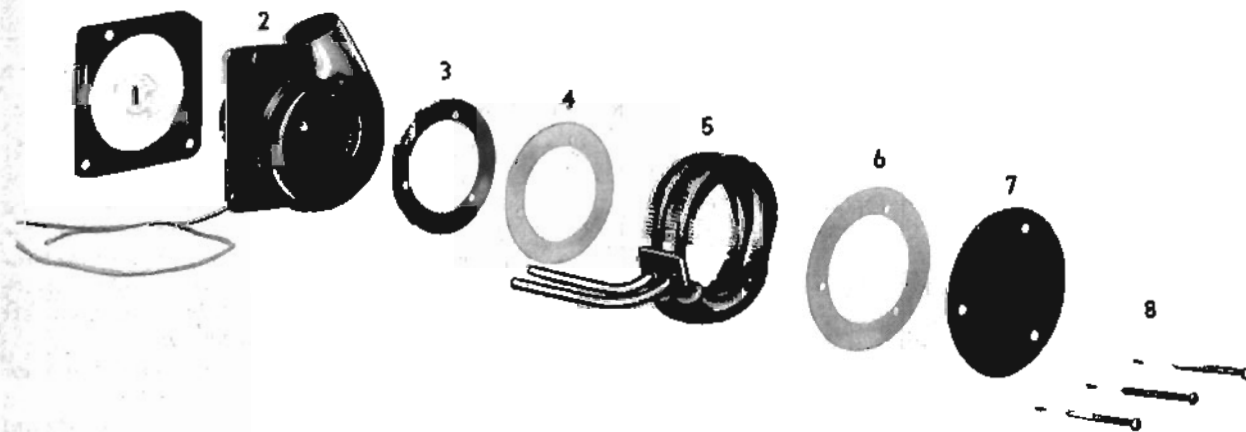

FIG. 3
Drain the cooling system and remove the hoses from the coil pipes. Disconnect the heater valve control cable and place to one side. Then remove the three coil cover-to-defroster blower screws (8, Fig. 3) which allows removal of the coil (5), inner and outer covers (3 and 7), and gaskets (4 and 6).